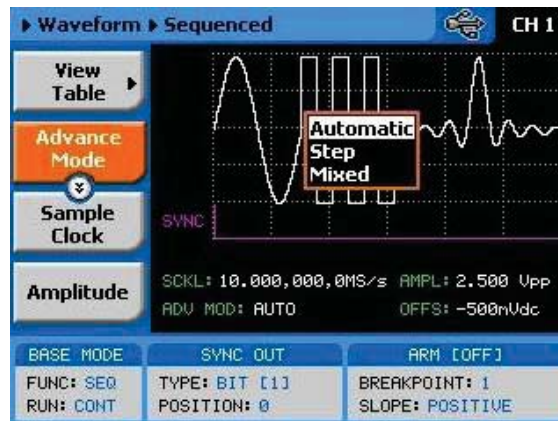

Figure 3-20, Sequence Advance Options
1. Refer to Figure 3-20 and select the Advance Mode with the appropriate soft key. The advance mode options, as shown in Figure 3-20 will display. Use the dial or arrow keys to scroll down to the required mode and press Enter to lock in the selected mode.
- The operating mode of the instrument, as selected from the Run Modes menu, affects the way that the 2074 lets you access the sequence advance mode parameter. If you are in continuous mode, as shown in Figure 3-20, you can select one of: AUTO, STEP, or MIXED. If you already selected the triggered run mode, you'll be able to select from AUTO, or SINGLE only as advance modes.